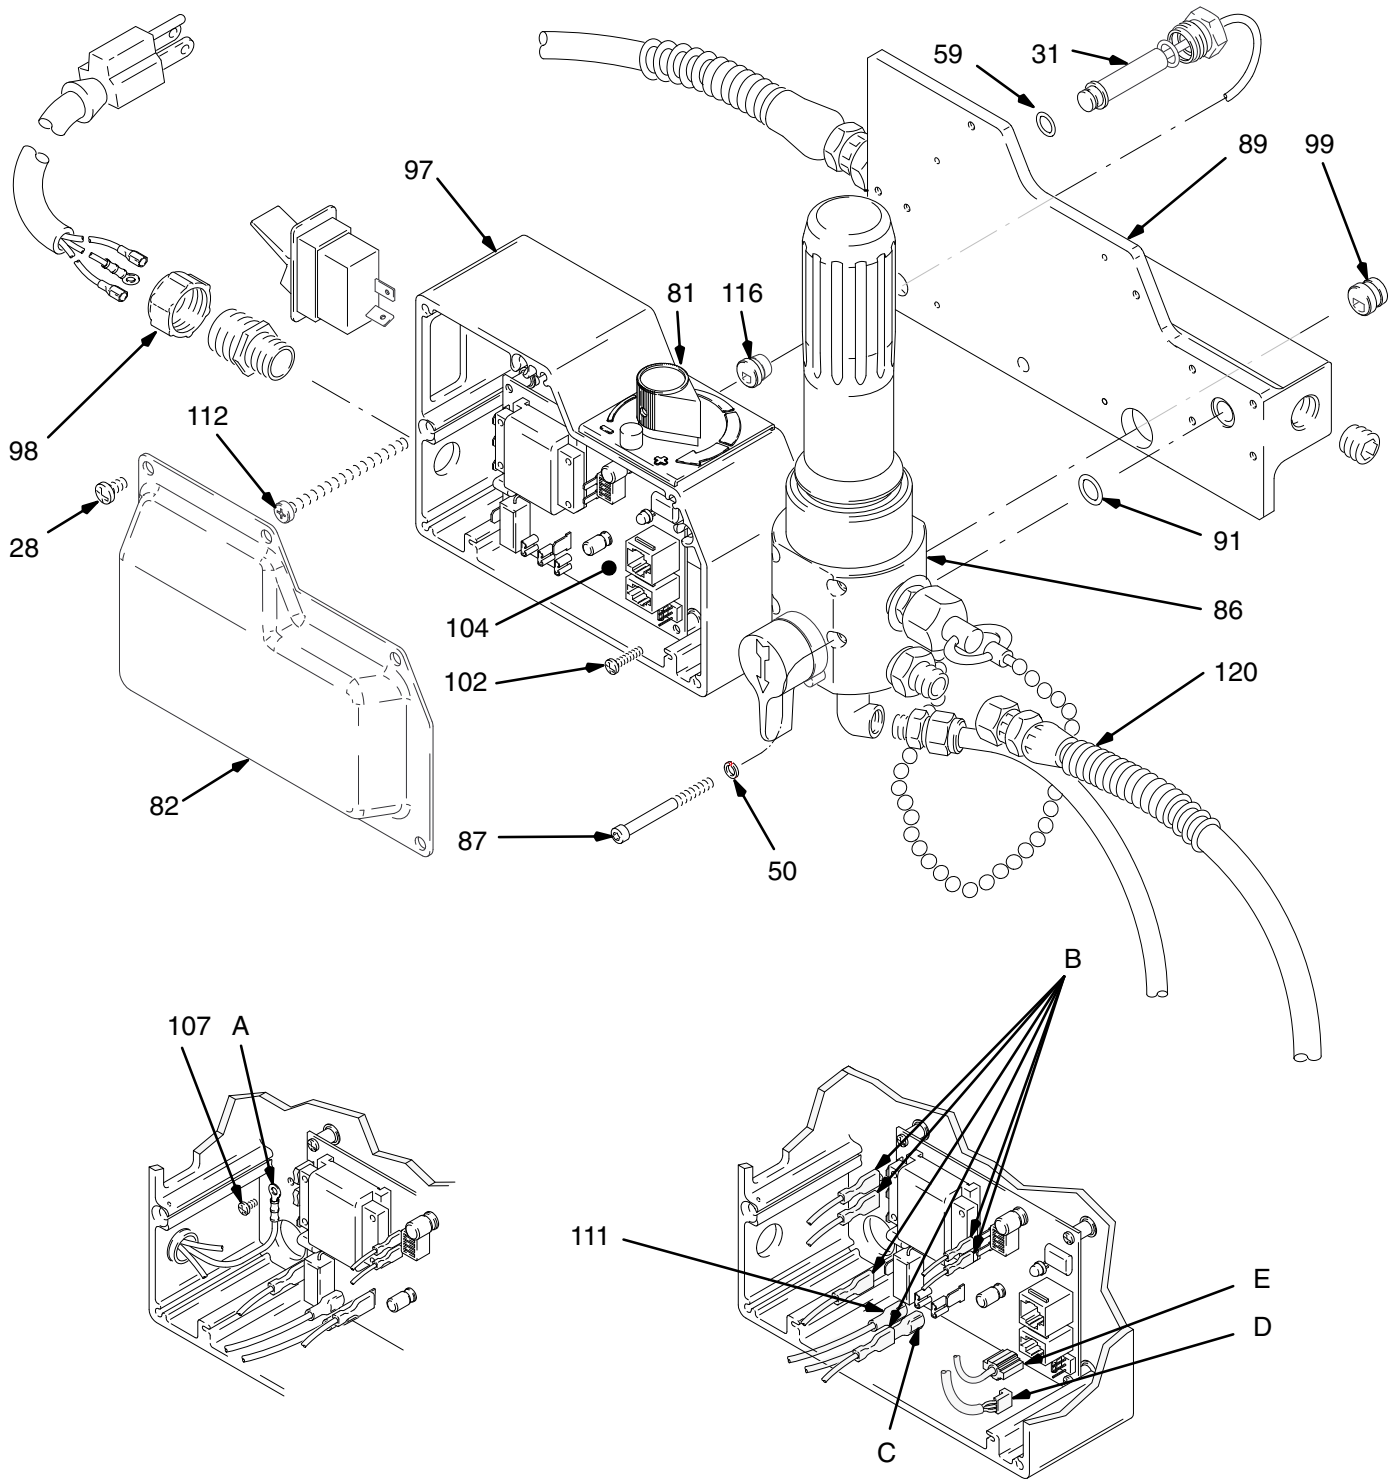

Fig. 16
2. Fig. 16. Install motor control board (104) with four screws (102) and washers (103).
- Lead (E) to transducer.
- Lead (D) to potentiometer.
- Lead (111) to ON/OFF switch.
- Lead (C) to power cord.
- Six motor leads (B).
4. Install cover (82) with five screws (28).
2. Fig. 16. Remove five screws (28) and cover (82).
- Lead (C) from power cord.
- Lead (111) from ON/OFF switch.
- Lead (D) from potentiometer.
- Lead (E) from transducer.
4. Remove four screws (102), washers (103) and circuit board (104).
2. Remove five screws (28) and cover (82). See Fig. 16.
3. Disconnect lead (E) from motor control board (104).
4. Remove strain relief bushing (116).
5. Remove pressure control transducer (31) and packing o-ring (59) from control housing plate (89).
2. Fig. 16. Install packing o-ring (59) and pressure control transducer (31) in control housing plate (89). Torque to 30–35 ft-lb.
3. Install strain relief bushing (116).
4. Connect lead (E) to motor control board (104).
5. Install cover (82) with five screws (28).
3. Disconnect lead (D) from motor control board (104).
4. Remove potentiometer knob (81), sealing shaft nut (106) and pressure adjust potentiometer (105).
2. Fig. 16. Install pressure adjust potentiometer (105), sealing shaft nut (106) and potentiometer knob (81).
3. Connect lead (D) to motor control board (104).
NOTE: Read **General Repair Information** on page 16 before doing this procedure. See Fig. 16 and 19.
2. Remove motor shield (54).
3. Remove pressure control cover (82). Disconnect six motor leads (B). See figure 16.
4. Remove strain relief (99) and pull motor wires bundle through pressure control opening. See figure 16.
5. Remove front cover (49).